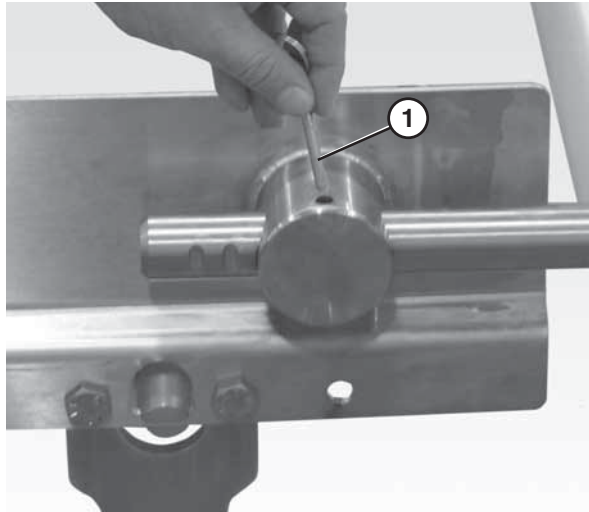

Figure 49
1. Remove the pull pins (**Figure 49, item 1**) on the tension end of the conveyor to release tension on the belt.